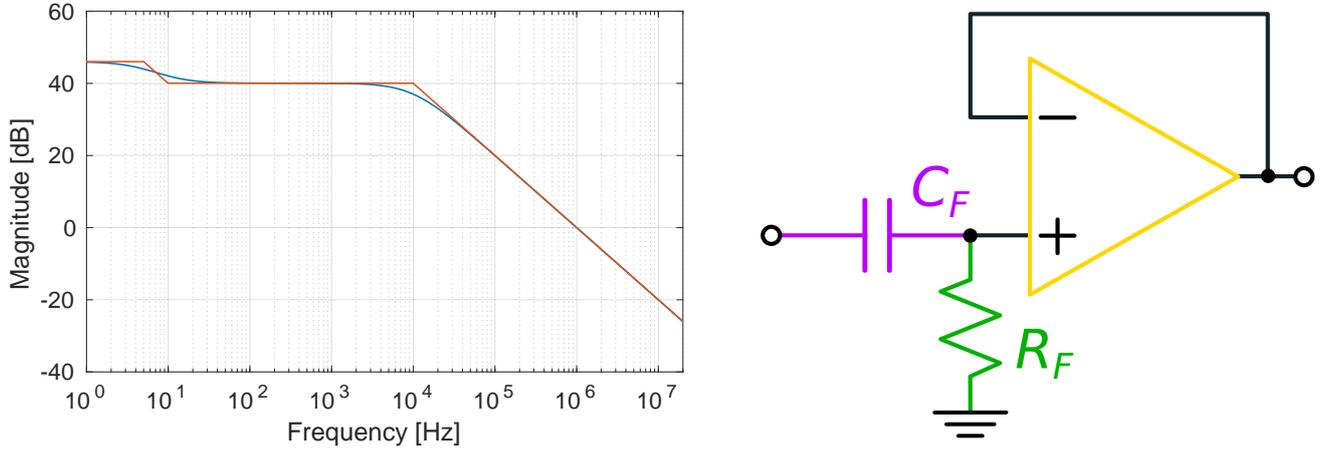

Figure 1: Left = Bode plot of real (blue) and asymptotic (red) loop gain. Right = Proposed scheme for the realization of the HPF.
4. Design a scheme for the block in Fig. 1.
This loop gain is shown in Fig. 1 (left). The high-frequency behavior is the same as $A(s)$, hence $f_{0dB} = GBWP = 1$ MHz and $\phi_m = 90^\circ$.
The block represents a high-pass filter, i.e., a CR filter having – say – $R = 16$ k Ω and $C = 1$ nF. The only precaution that must be taken is to place a buffer stage to decouple the filter from resistor R . The scheme is reported in Fig. 1 (right). Note that a buffer stage is not required at the input, as the filter is driven by the OA.